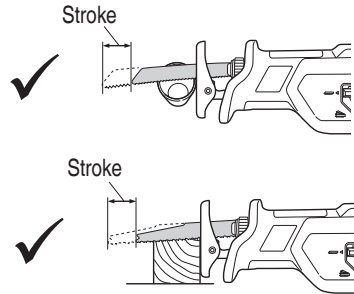

Fig. 14
- Select a saw blade of the most appropriate length. Ideally, the length protruding from the base of the saw blade after subtracting the stroke should be larger than the material (Fig. 14).